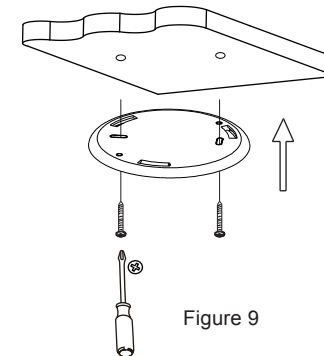

Figure 9
- 5, Screw the base fixed on the ceiling (Figure 9);